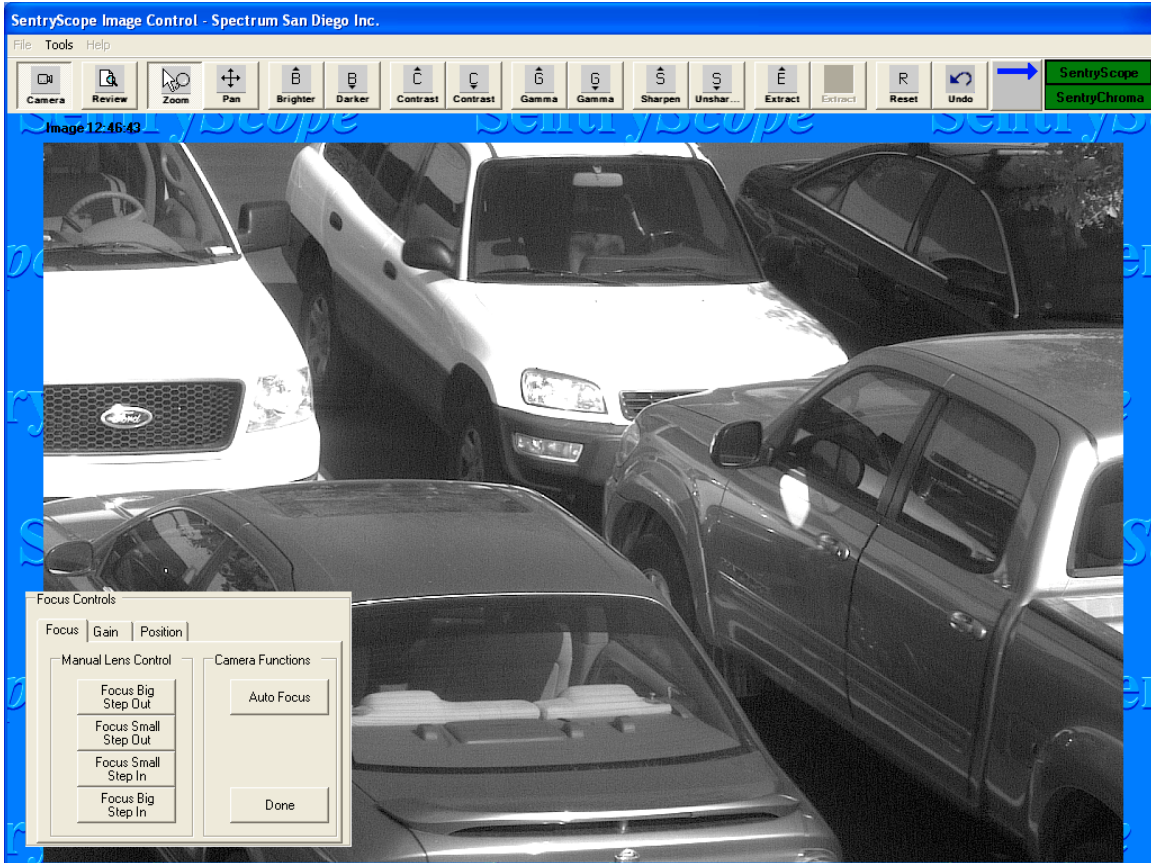
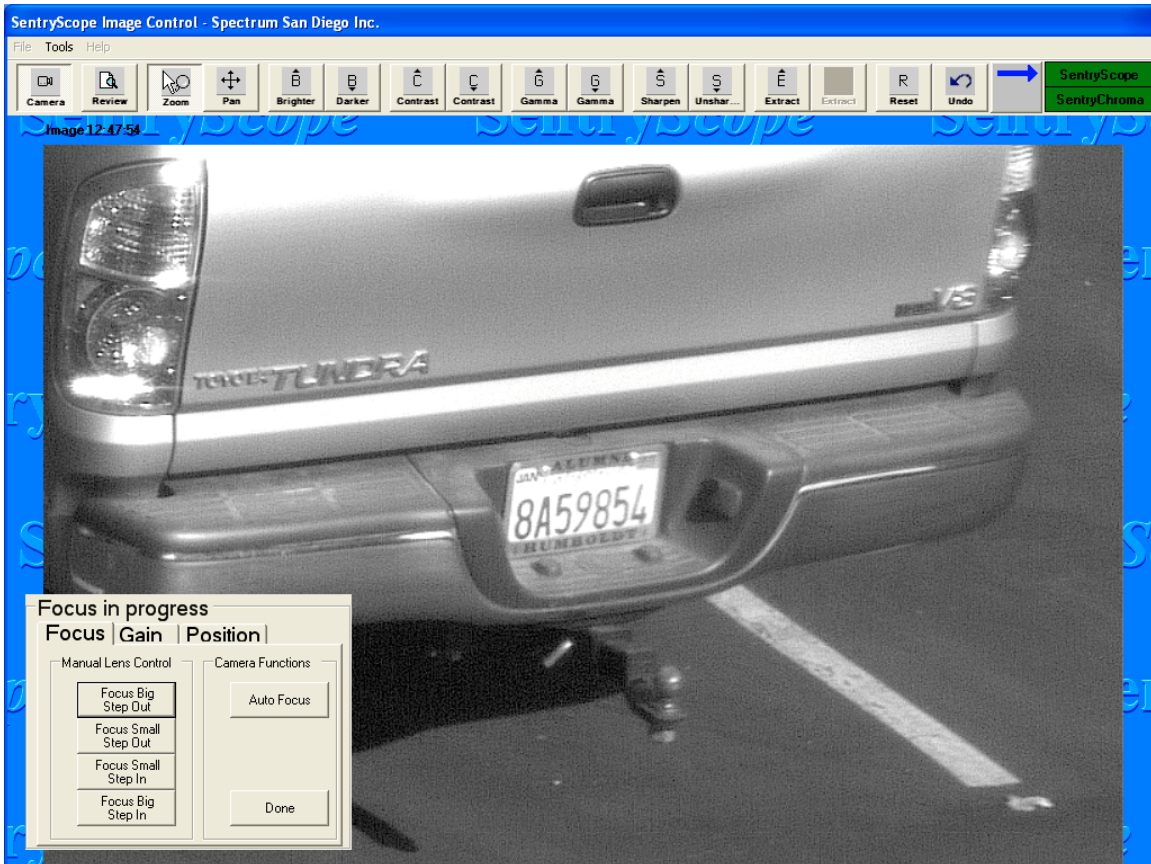

Figure 30
Figure 31
When Auto Focus is complete, the screen will look like Figure 30 below.
Use the “Manual Lens Control” controls to fine tune the focus. Zoom further into an area or item of interest. Use the controls in Figure 30 to fine tune the focus on the area of interest. Observe the affects of each focus step. The small step is the smallest adjustment that can be made with the lens. The big step is equal to five (5) small steps. The screen will look like Figure 31 below: